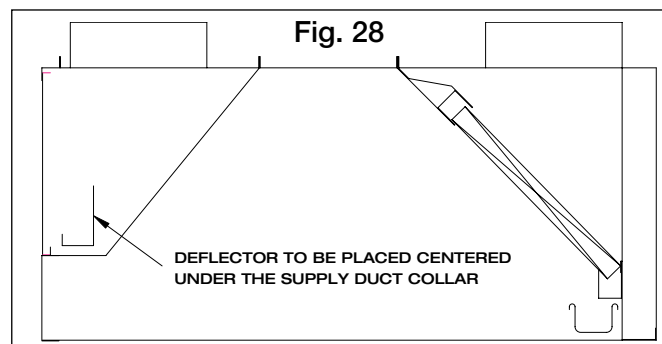

Fig. 28
4. The deflector is centered under the supply duct collar. (Fig. 28)